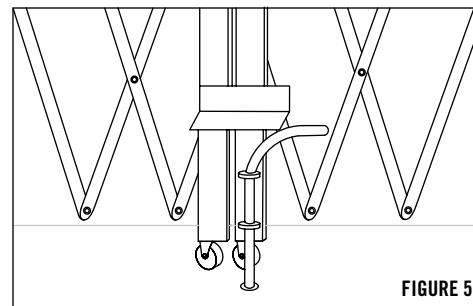

FIGURE 5
- 5) With center drop pin raised, extend both halves of gates together to center of opening, mark floor for center drop pin hole and drill a 3/4" diameter x 3" deep hole. Lower center drop pin (Note: some larger gates have an additional web in the center of each web, mark and drill these last.) Open gates slowly to avoid warping. (See Figure 5)